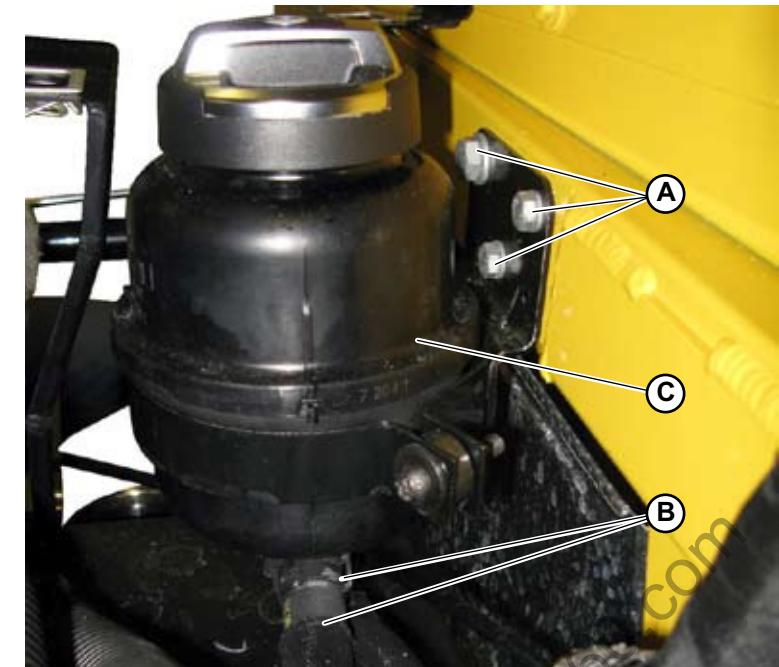

Fig.1
1. Loosen the 3 screws (A-Fig.1) that secure the bracket to the chassis.
2. Remove the 2 clamps (B-Fig.1) and disconnect the relevant oil pipes.
3. Remove the power steering tank (C-Fig.1).